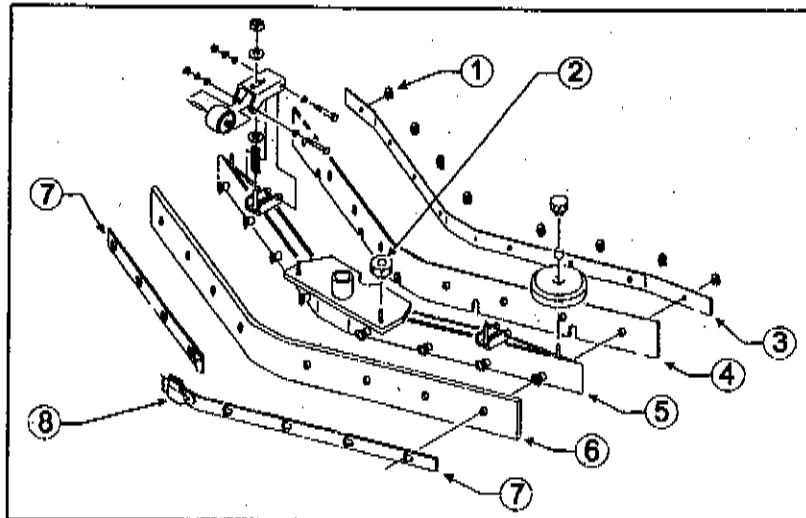

Fig. 13
- unscrew the knobs (fig. 13, ref. 1);
- remove the blade clamps (fig. 13, ref. 3);
- take out the blade (fig. 13, ref. 4);
- put the blade clamp (fig. 13, ref. 3) back;
- screw down all the knobs (fig. 13, ref. 1).
- unhook the hook clamp (fig. 13, ref. 8);
- slide out the two blade clamps (fig. 13, ref. 7) by first pushing them outwards with respect to the squeegee unit (fig. 13, ref. 5) and then taking them out;
- remove the blade (fig. 13, ref. 6);
- fit in the same blade inverting the edge in contact with the floor until all the four edges are worn, or else fit in a new blade embedding it in the screws of the squeegee unit (fig. 13, ref. 5);
- put the two blade clamps (fig. 13, ref. 7) back, centering the largest part of the slots on the fixing screws of the squeegee unit (fig. 13, ref. 5) and then pushing the blade clamps towards the inside of the squeegee itself;
- hook the clamp (fig. 13, ref. 8) again.